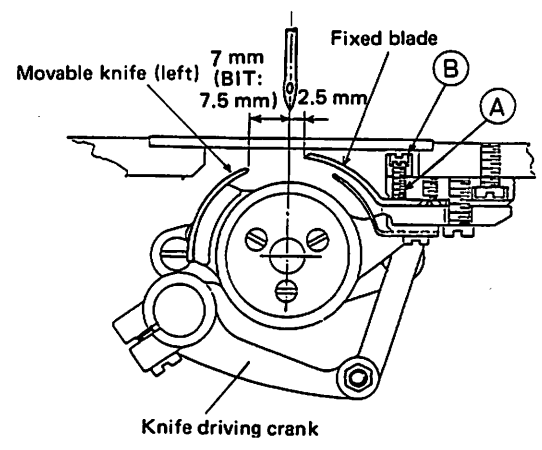

Fig. 12
(1) Positions of movable knife (left) and fixed blade
① Fig. 12 shows the standard state.